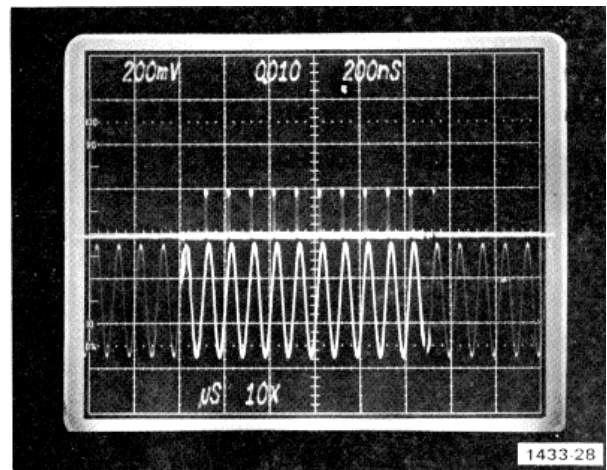

Fig. 5-9. Typical pseudo gate display when A Arm is gated.
- h. Check-for displayed pseudo gate pulses occurring only during the intensified portion of the sine wave. See Fig. 5-9 for a typical pulse display.